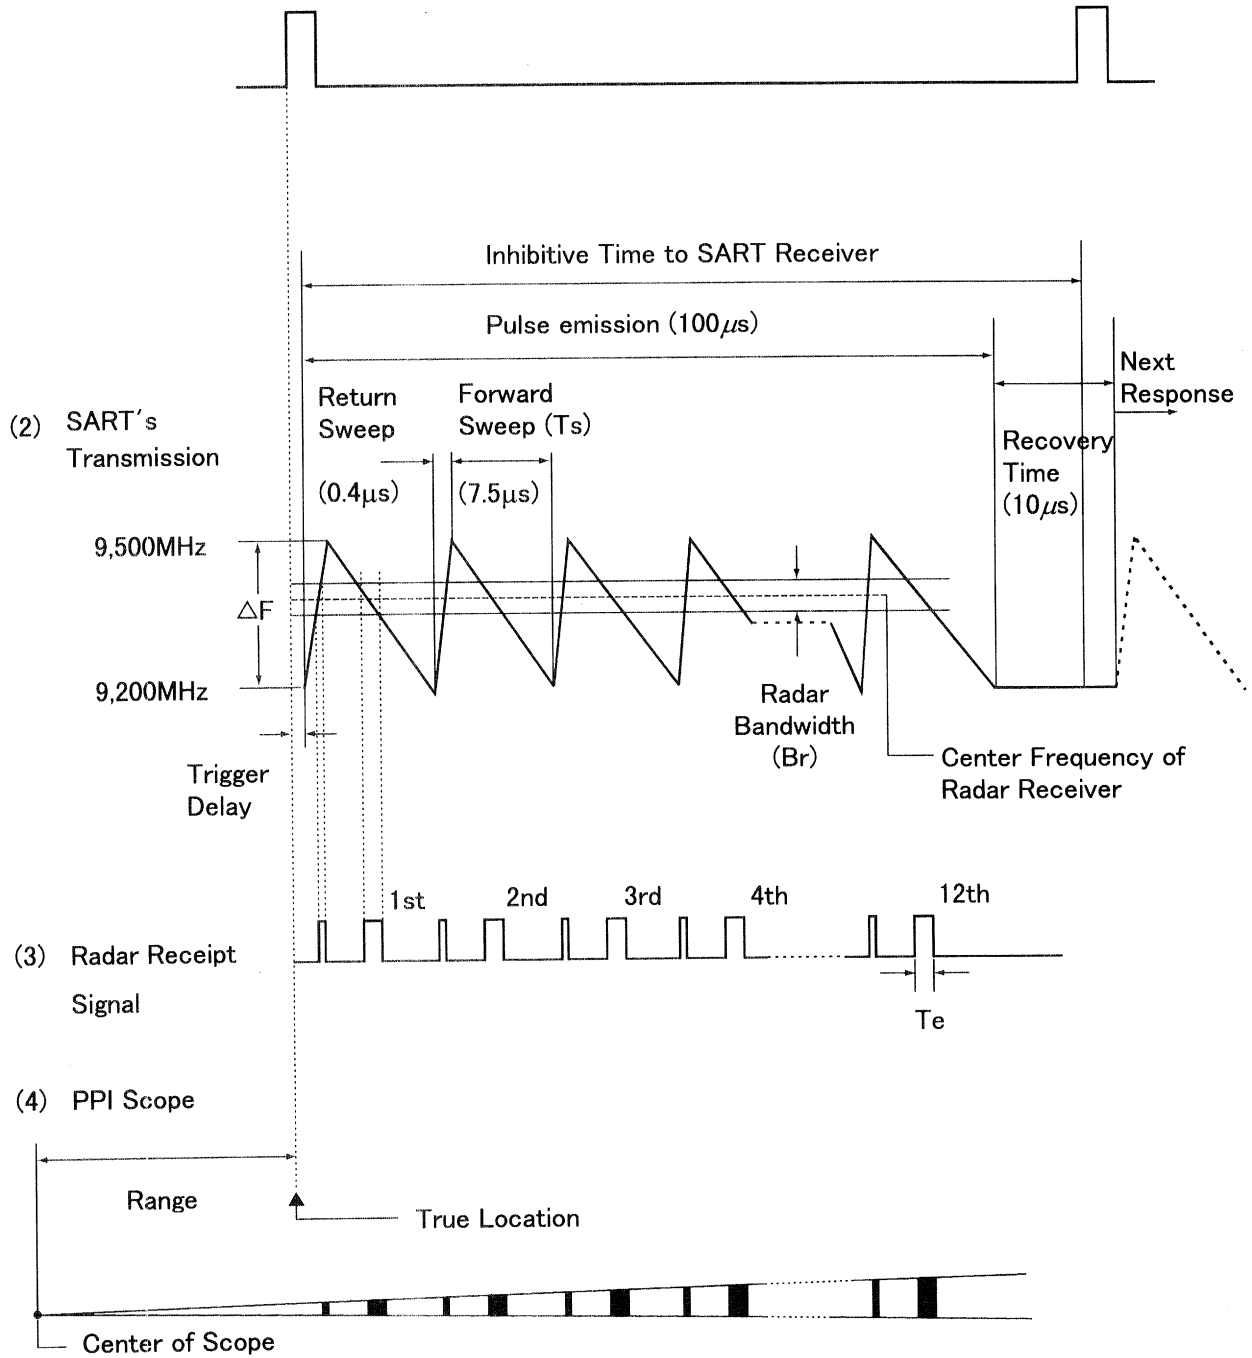

Fig. 5.2 Basic Concept of SART Operation
The basic concept of SART operation is shown in Fig. 5.2, and the working principle is explained as follows:
- (1) The SART receives radar interrogating pulse signals on any frequency within the band between 9,200 MHz to 9,500 MHz.
- (2) The SART transmits a series of 12 frequency swept signals, each covering the range of 9,200 MHz to 9,500 MHz. The forward sweep time will be  $7.5\mu s \pm 1\mu s$  and return sweep time will be  $0.4\mu s \pm 1\mu s$ .
- (3) The radar receiver receives the SART's response signals with a pulse width proportional to the receiver intermediate frequency (IF) bandwidth.
- (4) The SART response signal is displayed as 12 blips in a bearing direction on the PPI scope of triggering radar. As mentioned in Fig. 5.2, pulse emission time of the SART is  $100\mu s$  and  $1\mu s$  of round-trip time corresponds to a distance of 0.081 nautical miles (NM).